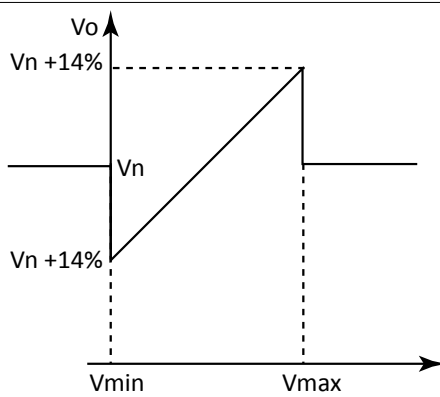

Figure 22- Without saturation of the output voltage
- Do not consider the value and, with regulation, go back to the voltage value set via trimmer (if enabled) or via parameter P[19] (Figure 22- );